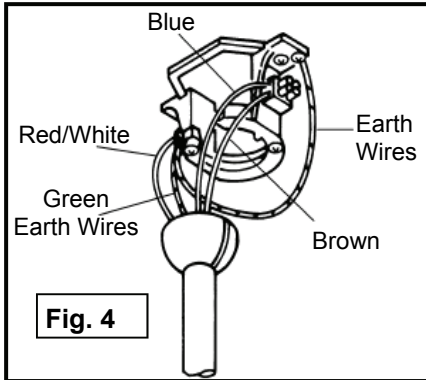

Fig. 4
### STEP 4 (Fig 4 & 5)
- Connect wires from the fan with wires in the ceiling via the terminal block on the hanger bracket refer to figure 4 and 5.